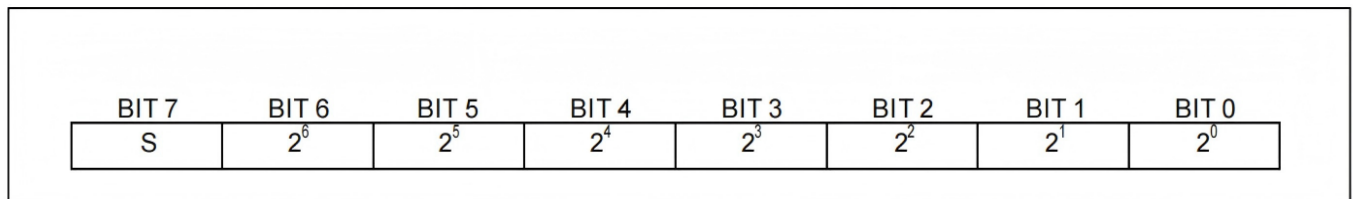

Figure 3. TH and TL Register Format
After the DS18B20-NF performs a temperature conversion, the temperature value is compared to the user-defined two's complement alarm trigger values stored in the 1-byte TH and TL registers (see Figure 3). The sign bit (S) indicates if the value is positive or negative: for positive numbers $S = 0$ and for negative numbers $S = 1$. The TH and TL registers are nonvolatile (EEPROM) so they will retain data when the device is powered down. TH and TL can be accessed through bytes 2 and 3 of the scratchpad as explained in the Memory section.